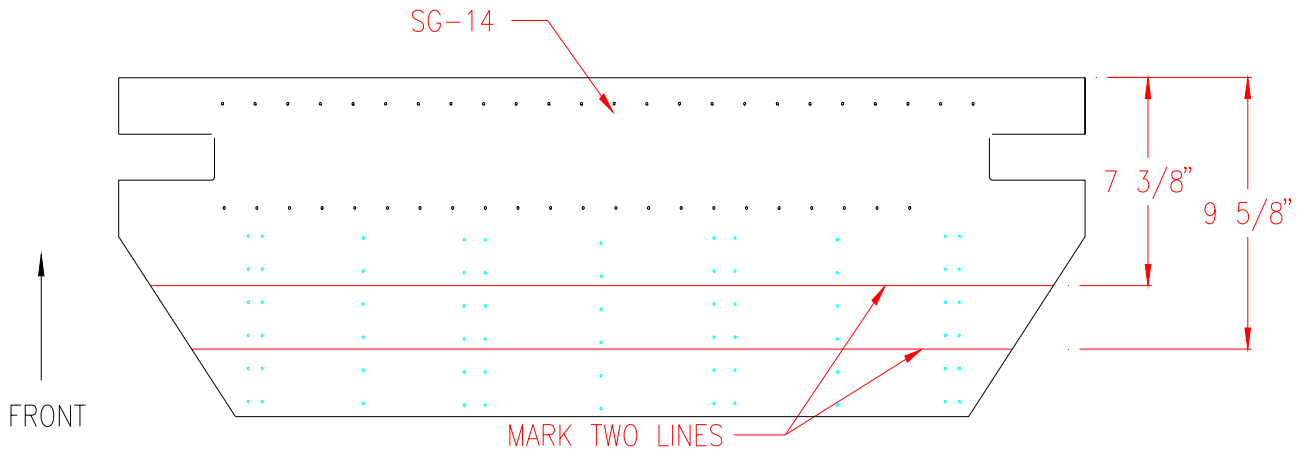

Figure 14.1.11
27) Measure down from the top of SG-14 and mark the two lines as shown in Figure 14.1.11.